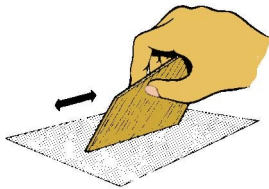

Figure 5
- **Step 8** Cut out the fins and the conduit shrouds from their respective balsa stocks, using the patterns on page 3 of these instructions. Trim down the pieces carefully until they are the correct sizes (or find someone capable of laser-cutting the pieces). Round over all of the **outer** edges of the fin pieces with 400-grit paper, but **square up** the root edge with 220-grit paper where it will attach to the conduit, as seen in the illustration in Figure 5. Give the faces of the fins a careful sanding with 220-grit paper to remove the fuzziness. Round over the **outer** edges of the conduit shroud with 220-grit paper the full length **forward** of the notch for the fin, but **square up** the bottom of the conduit with 220-grit paper where it attaches to the body tube.